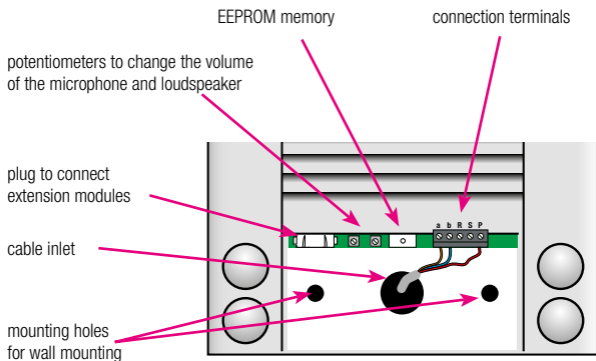

Fig. 2: making connection terminals and mounting holes visible
3. Slide the nameplate down, so the connection terminals become visible (fig. 2).
To extend the external audio unit with additional bell push buttons, you connect one or more extension modules to the external audio unit. Niko recommends the use of extension modules that are the same size as the external audio unit (see chapter 6). You connect the extension modules to the external audio unit by connecting the connection cable of the extension module to the plug provided for this purpose in the external audio unit (fig. 2 and 3).
The volume of the microphone (at the internal unit) and the loudspeaker (at the external audio unit) can be adjusted using the potentiometers on the printed circuit board of the external audio unit (fig. 2 and 3). Rotate to the left to decrease the volume, and rotate to the right to increase the volume.